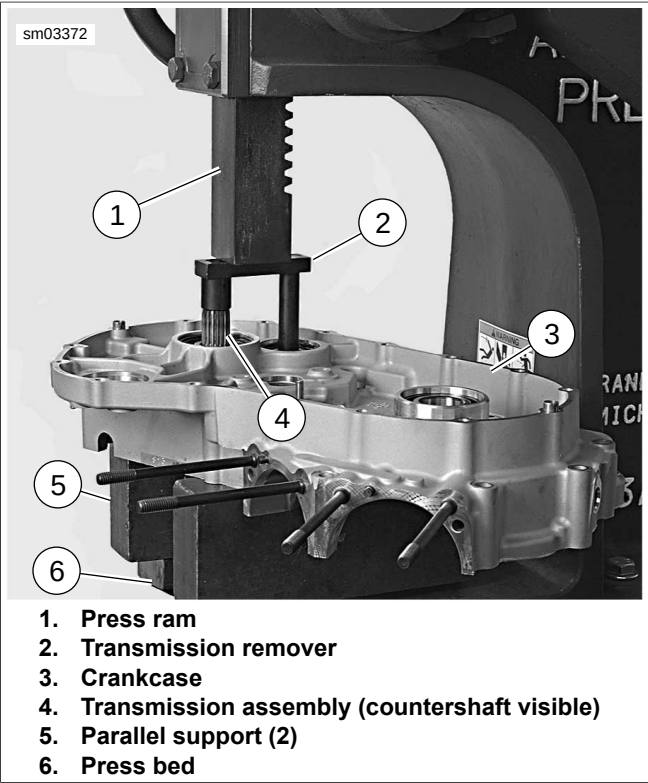

Figure 5-58. Pressing Transmission From Left Crankcase
3. See Figure 5-58. Remove left crankcase half and transmission assembly (4) from engine stand.
- a. Place crankcase half (3) and transmission assembly (4) on arbor press (1) and support transmission assembly on parallel supports (5).
- b. Press transmission assembly using REMOVER (Part No. B-43895-1) (2) to remove transmission from crankcase half.